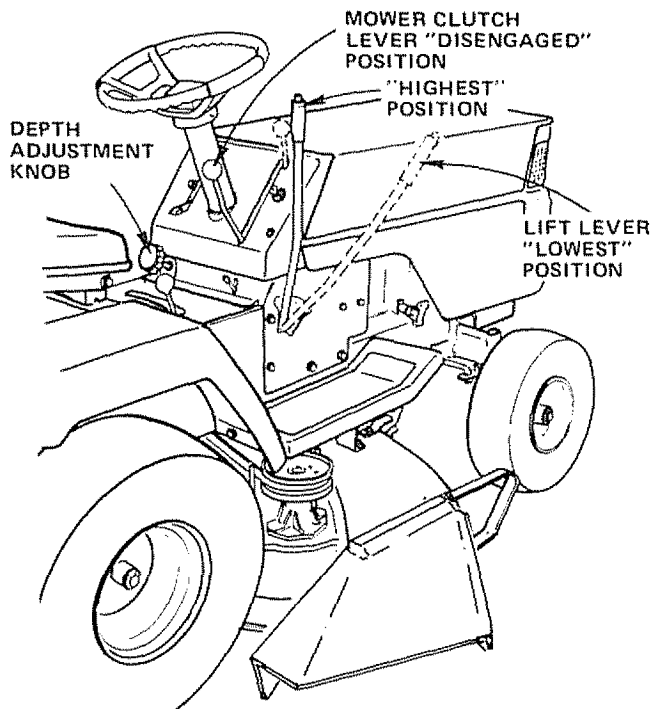

FIGURE 37
If the Mower Clutch Lever (Fig. 37) travels 3 - 1/2" up the slot in the dash before spring tension resistance is evident, adjustment is necessary. **NOTE: CHECK FOR PROPER SPRING TENSION WITH ENGINE OFF AND LIFT LEVER IN HIGHEST POSITION**
1. Place Mower Blade Clutch Lever in "DISENGAGED" position (Fig. 37).
2. Turn Depth Adjustment Knob to lowest position. Move Mower Lift Lever (Fig. 37) forward to lower Mower to its lowest position.